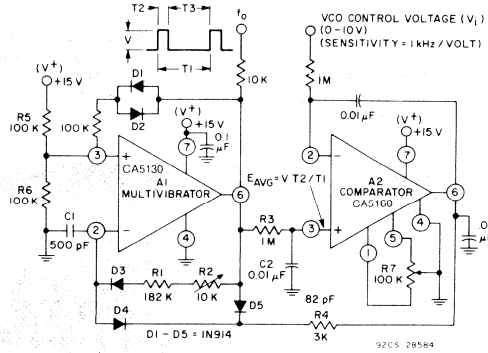

Fig. 25 — Voltage-controlled oscillator.
The circuit diagram of a precision voltage-controlled oscillator is shown in Fig. 25. The oscillator operates with a tracking error in the order of 0.02 percent and a temperature coefficient of 0.01%/°C. A multivibrator (A_1) generates pulses of constant amplitude (V) and width (T_2). Since the output (terminal 6) of A_1 (a CA5130) can swing within about 10 millivolts of either supply-rail, the output pulse amplitude (V) is essentially equal to $V+$. The average output voltage ($E_{avg} = V T_2/T_1$) is applied to the non-inverting input terminal of comparator A_2 (a CA5160) via an integrating network R_3, C_2 . Comparator A_2 operates to establish circuit conditions such that $E_{avg} = V1$. This circuit condition is accomplished by feeding an output signal from terminal 6 of A_2 through R_4, D_4 to the inverting terminal (terminal 2) of A_1 , thereby adjusting